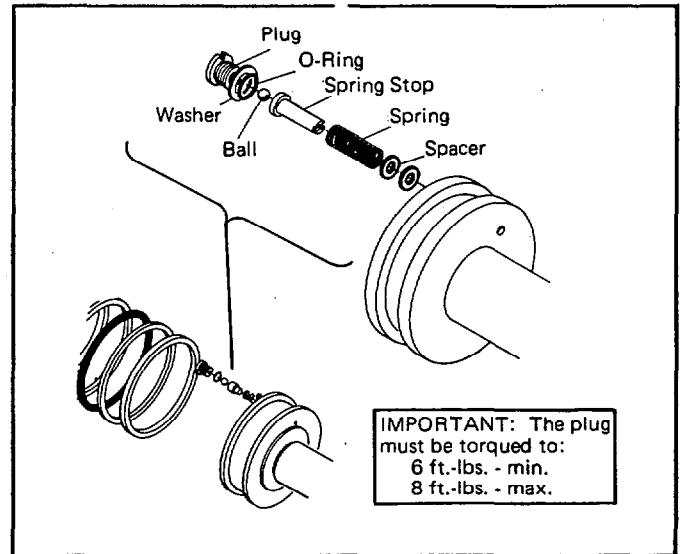

Figure 13. Equalizer Valve
3. Install the new equalizer valve as shown in Figure 13, using two spacers behind the spring.